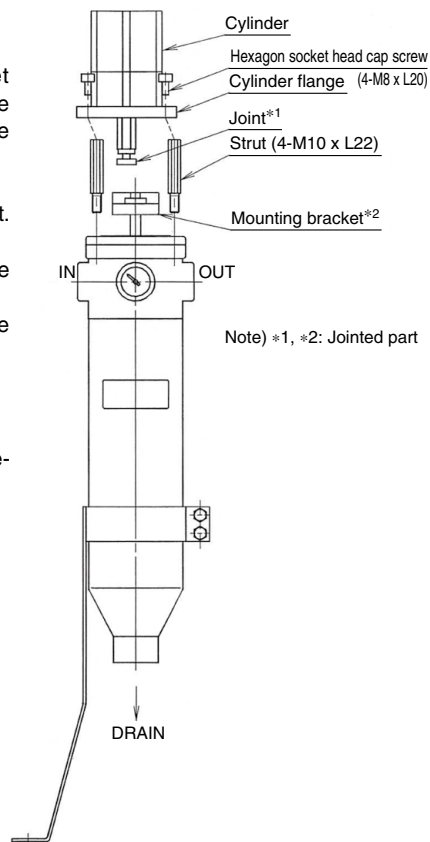

Fig. 2
- 2-2. Remove the cylinder flange fixing screws (four M8 hexagon socket head cap screws), and remove the entire body of the cylinder. [Slide the entire body of the cylinder in the horizontal direction, and remove the cylinder from the joint. See Fig. 2]
- 2-3. Remove the 4 struts. [See Fig. 2]